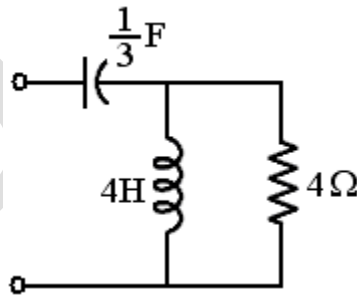

Fig.2
- b) Determine the Laplace Transforms Impedance of the circuit shown in Fig.2. [8+7]